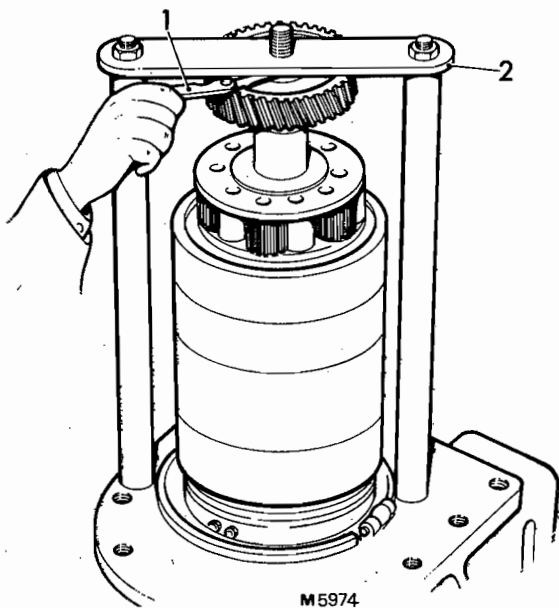

FIG. 24 CHECKING THE MINUS READING
16. Fit the bush (55).
17. Fit the sleeve (53) for the reverse speed sun wheel.
18. Fit the two bushes (51) to reverse speed sun wheel (36).
19. Fit sun wheel (36).
20. Fit the 1st speed annulus (28).
21. Fit the bush (54).
24. Position gauge and measure running gear end float as shown in Fig. 24. A maximum of 0.020 in end-float is permissible.